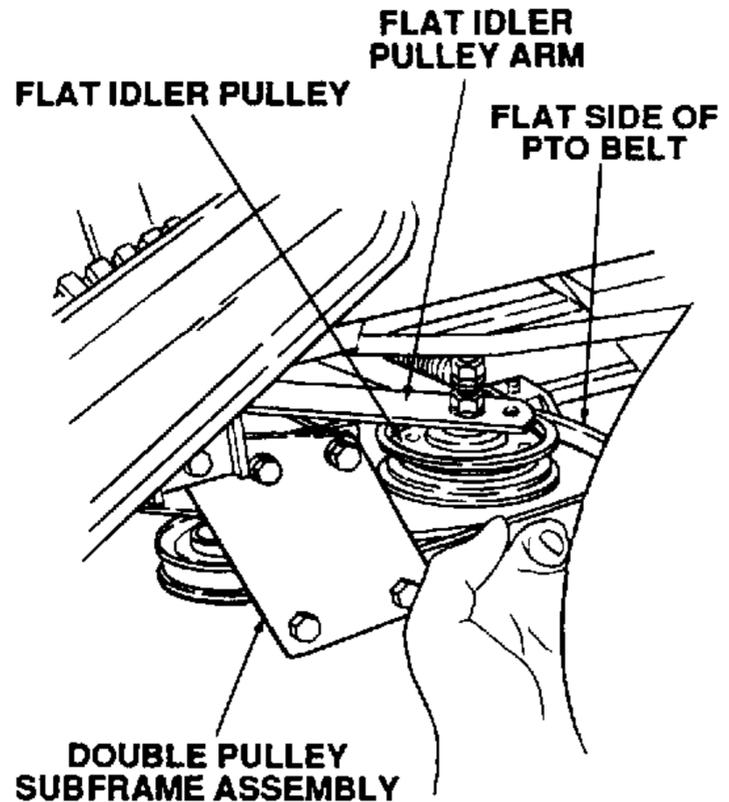

Figure 7-38. Position Flat Idler Pulley.
8. From behind the front/right tire, pull the flat idler pulley toward you and position the PTO belt inside the flat idler pulley. Refer to Figure 7-38.